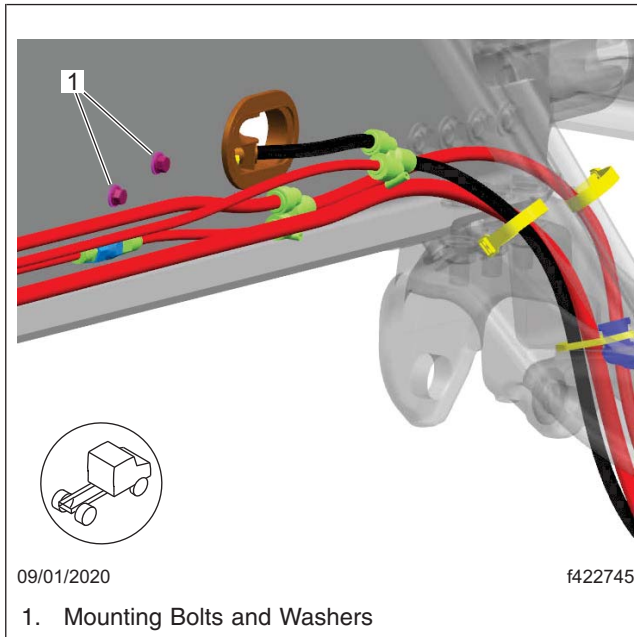
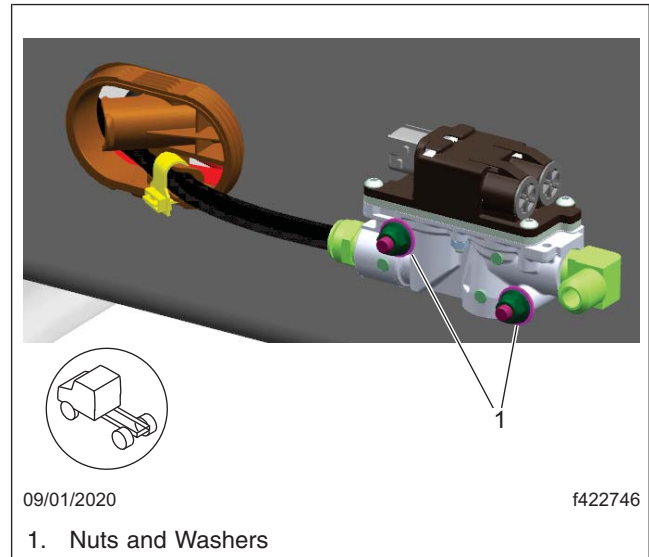

**Fig. 10, 25-FL958-000 Kit Components**
**Fig. 11, Installing the Spacers**
11. Use a 1/2-inch socket wrench along with the new bolts, spacers, and washers (supplied in the kit) to install the modulator on the vehicle. Tighten the bolts 11 lbf·ft (15 N·m). See Fig. 10, Fig. 11, Fig. 12, and Fig. 13.